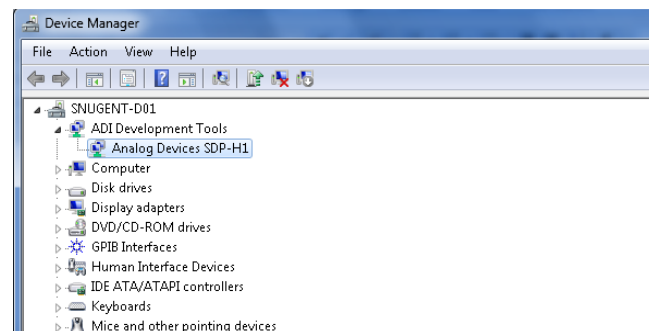

Figure 11. Device Manager: Checking that the Board Is Connected to the PC Correctly
- b. Under **ADI Development Tools**, **Analog Devices SDP-H1** should appear (see Figure 11), indicating that the EVAL-SDP-CH1Z driver software is installed and that the board is connected to the PC correctly.